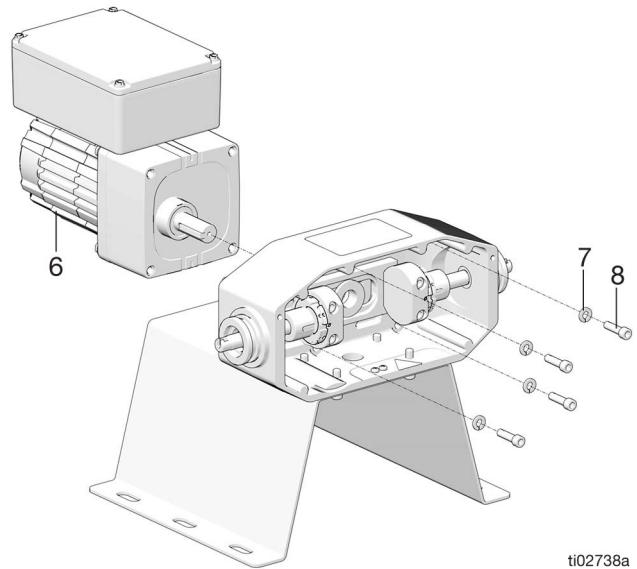

FIG. 31:
7. Remove the four bolts (8) and washers (7) at the back of the housing (FIG. 31).